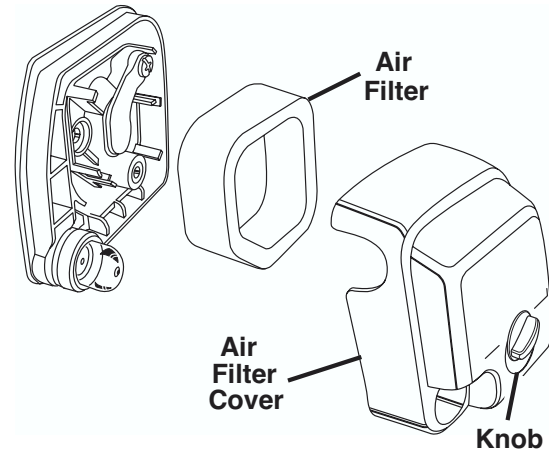
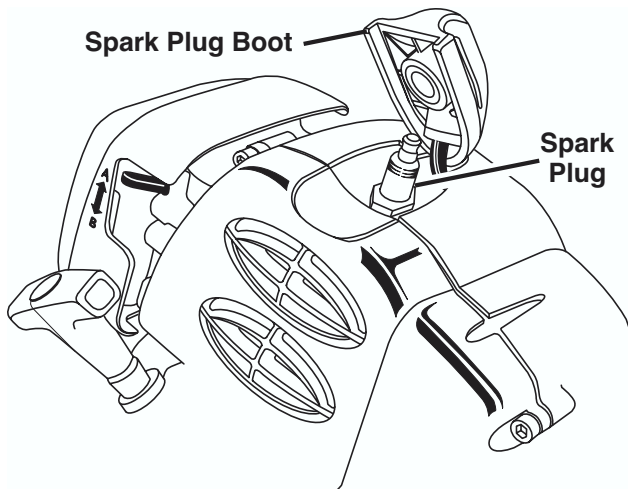

Figure 20
Figure 22
2. Remove the spark plug boot. See Figure 22.
18. Replace the spark plug boot. *See Figure 22.*
2. Remove the spark plug boot. *See Figure 22.*
14. Replace the spark plug boot. *See Figure 22.*
See Figure 20 and Figure 22.
See Figure 22.